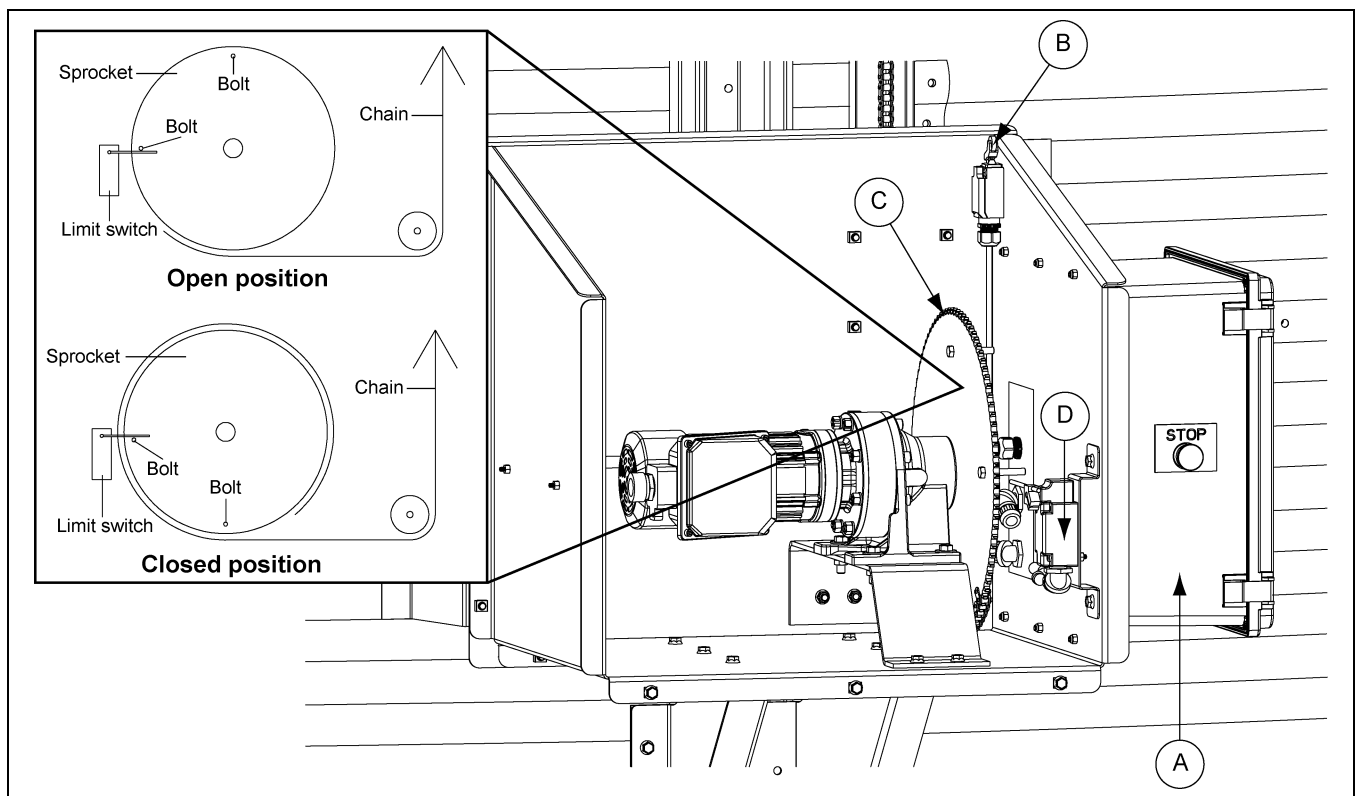

Figure 4H
1. Field drill two (2) holes in bottom of chute position controller electrical box (A) large enough to accommodate cables for power and Autoflow controls. Refer to wiring diagrams on Pages 24 and 25 to feed conduit for wiring to the main power breaker and Autoflow controls. (See Figure 4H.)
- b. Ensure the sprocket (C) is in the open position when beginning testing. Use the manual dump chute switch located on the main control panel to move between the open and closed positions. Set the sprocket travel to the closed position on the Autoflow control and observe the bolts in the sprocket (C) travel from the open (clockwise) position to the closed (counterclockwise) position to the limit switch (D) as shown in Figure 4H.